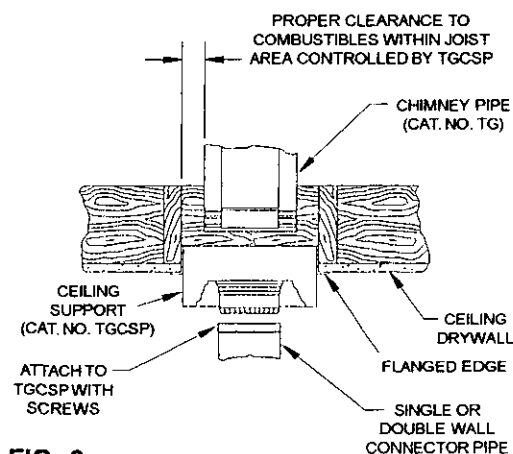
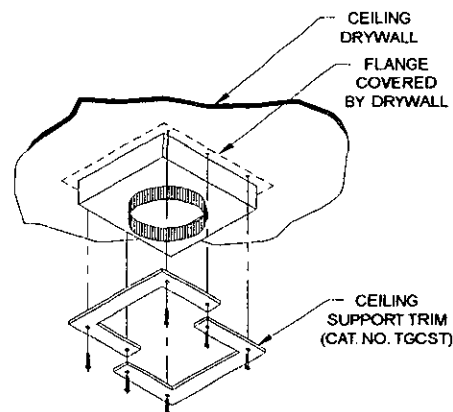

FIG. 2
FIG. 3
3. As shown in Figure 2, insert the Ceiling Support (TGCSP) from below until the flanged edges are firmly against the ceiling drywall. Secure into framing with eight (8) 8-penny nails inserted through the sides of the ceiling support. If the TGCSP was installed during construction and dry wall now covers the flanged edges, install Metal-Fab's ceiling support trim kit (TGCST), as shown in Figure 3.
4. Single wall or double wall connector pipe may now be installed between the appliance and the ceiling support. (See Figure 2.)